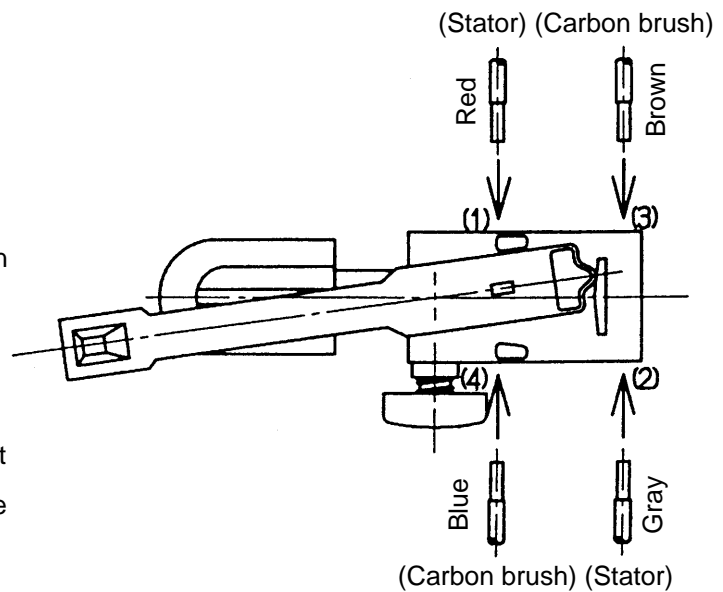

Fig. 9 Wiring of reversing switch
(1) Wiring of reversing switch
Insert the lead wire (red) coming from the stator into the terminal (1) of the reversing switch, and the lead wire (gray) into the terminal (2) as shown in Fig. 9. Insert the lead wire (brown) coming from the carbon brush into the terminal (3) and the lead wire (blue) into the terminal (4). After insertion, pull each lead wire slightly to check that the lead wires do not come off. To disconnect the lead wires, insert a small flat-blade screwdriver into the slots near the terminals and pull out the lead wires.